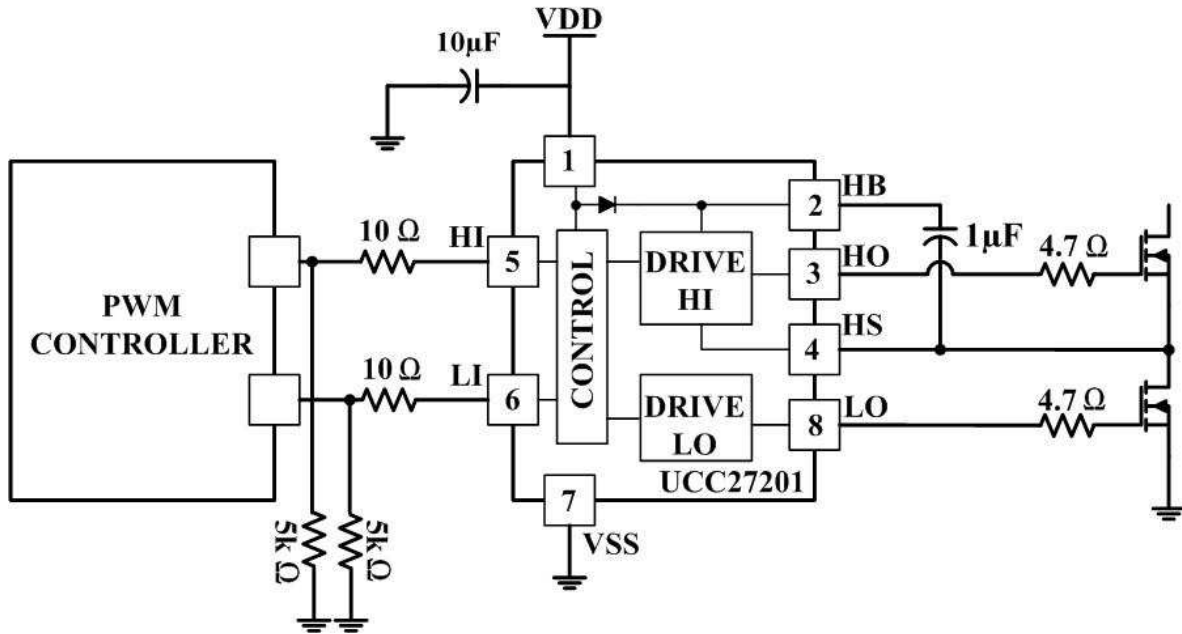

Fig. 6: Block diagram of UCC27200/1 gate driver.
There are many gate drivers based on boot-strap circuitry available in the Integrated Circuit (IC) chips, though not necessarily using the exact circuit discussed above. A sample is the UCC27200/1 shown in Fig. 6. The UCC27200/1 is designed to drive both high-side and low-side switches. An external capacitor and diode provides the bootstrap circuit for the high-side MOSFET used in a buck converter. The low-side driver can be used to drive the low-side MOSFET of a boost converter.